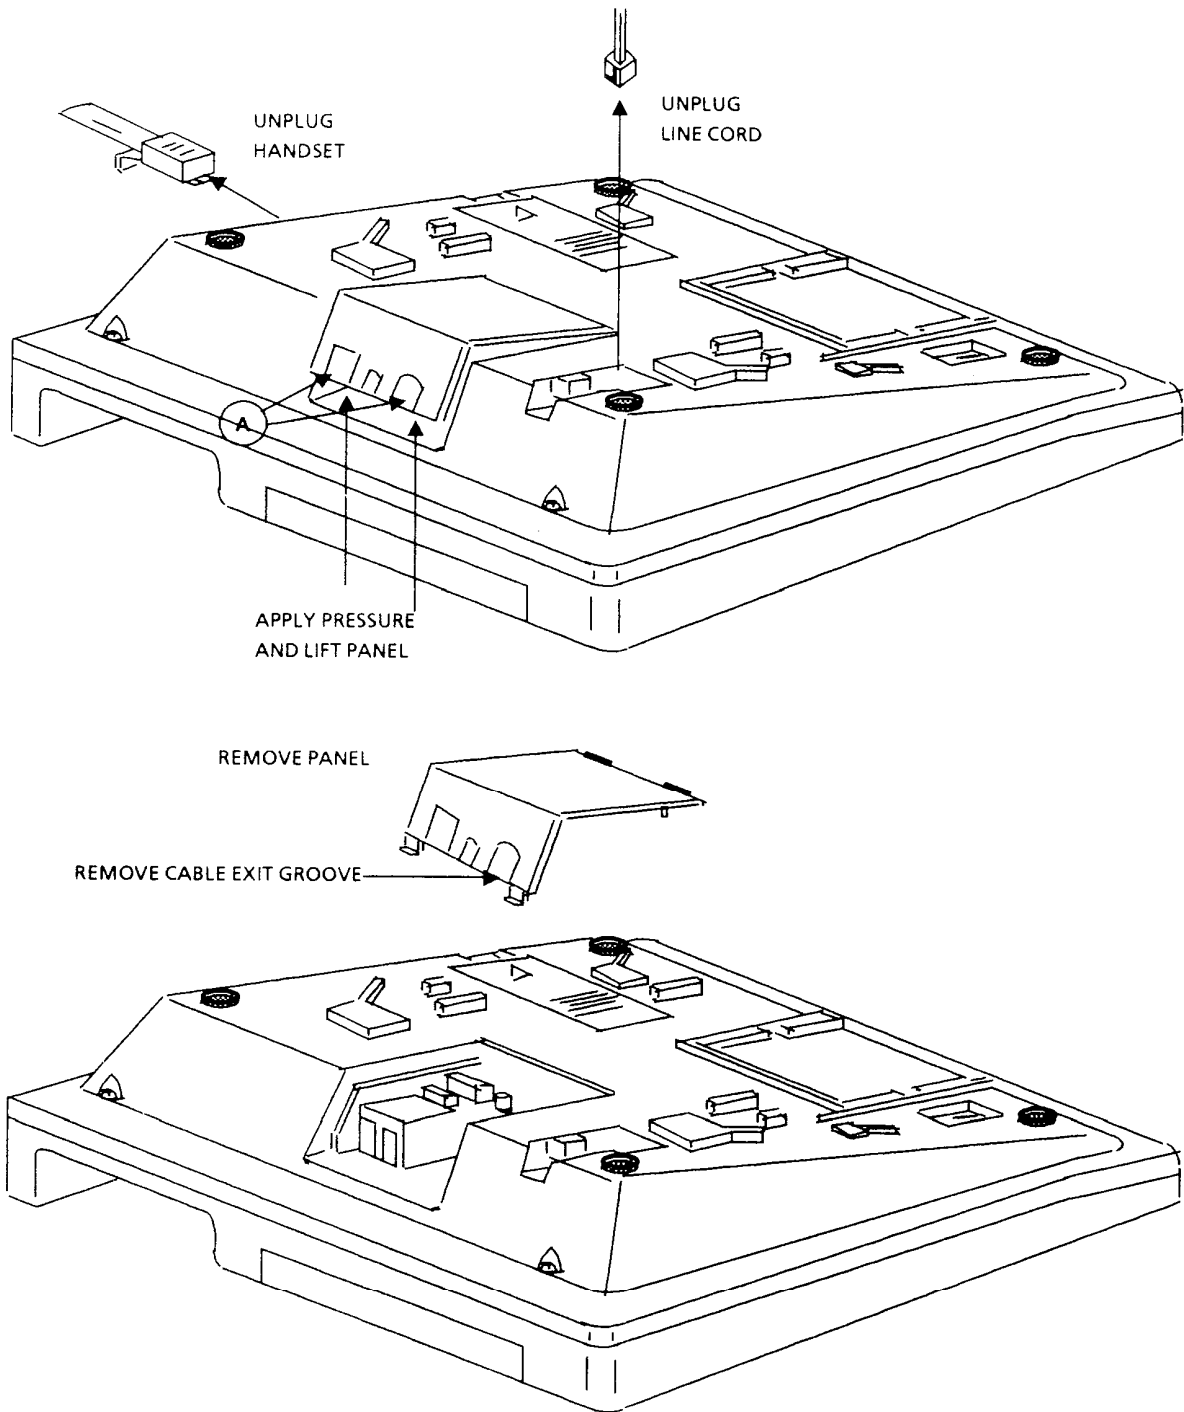

Figure 1 Access Panel Removal
6.12 Route the Speakerphone wires (already connected to the ADA-Z unit) through one of the two notched cable exit grooves on the access panel (see Figure 1). Install the access panel.